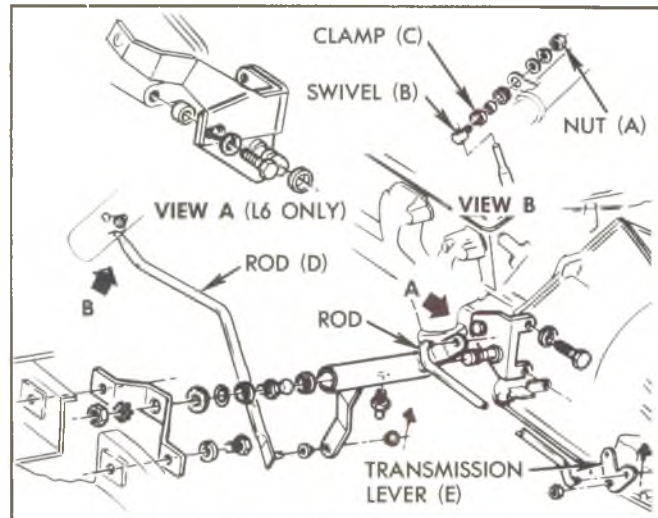

Fig. 28M—Column Shift Linkage - G Series
**Column Shift Linkage - G Series (Fig. 28M)**
2. To check for proper shift linkage adjustment, lift the transmission selector lever towards the steering wheel. Allow the selector lever to be positioned in drive (D) by the transmission detent.
4. Lift the selector lever towards the steering wheel, and allow the lever to be positioned in neutral (N) by the transmission detent.
7. If adjustment is required, loosen nut (A) on steering column to allow swivel (B) and clamp (C) to move freely on rod (D).
8. Set transmission lever (E) in Neutral position by moving lever counter-clockwise to L1 detent and then clockwise three (3) detent positions to Neutral.